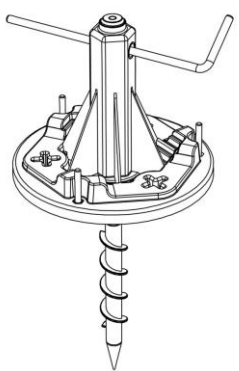

Fig 1
1. Remove Parts F1 – F3 from the Auger stake (B) and set aside.
2. Place the Adaptor (A) on to the Auger stake (B)
3. Place the Turning bar (D) in the hole through the Adaptor and the Auger stake, **Fig. 1**